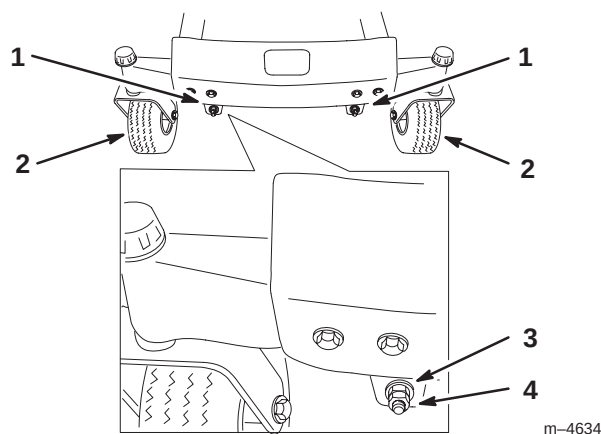
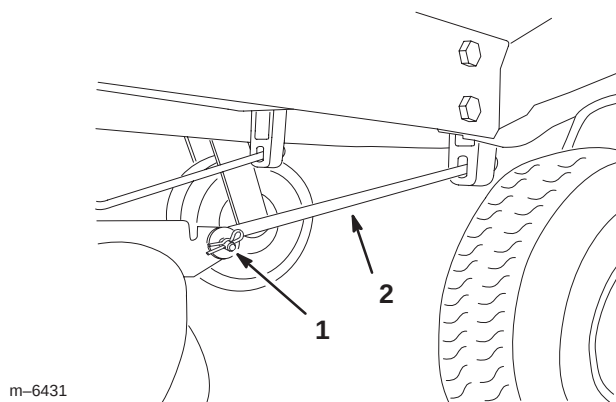

Figure 44
Figure 46
10. To adjust the front-to-rear blade slope, remove the locknuts and then rotate the adjustment nuts in the front of the mower (Fig. 44).
12. After adjusting both adjustment nuts evenly, check the front-to-rear slope again. Continue adjusting the nuts until the front blade tip is 1/16–5/16 inch (1.6–7.9 mm) lower than the rear blade tip (Fig. 44).
Note: After adjusting the adjustment nuts, make sure there is **no slack** in either support rod (Fig. 46). Tighten either one to remove the slack (Fig. 44).
4. Remove the hairpin cotter and clevis pin from the front support rod on each side of the mower.(Fig. 46).
- Attach the front support rods to the tractor with the clevis pins and hairpin cotters (Fig. 46).